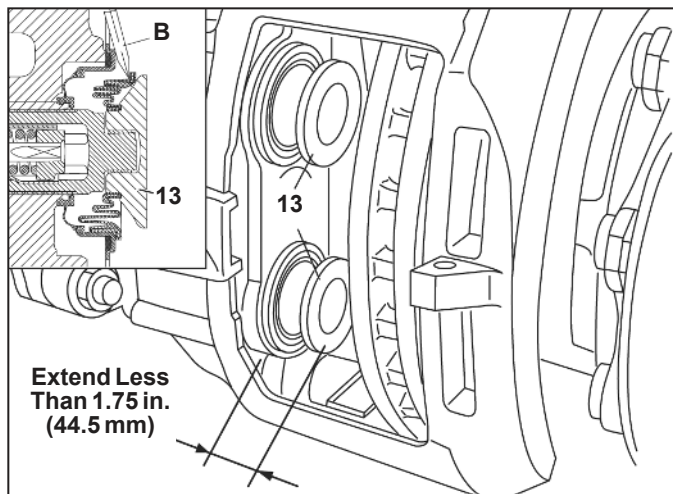
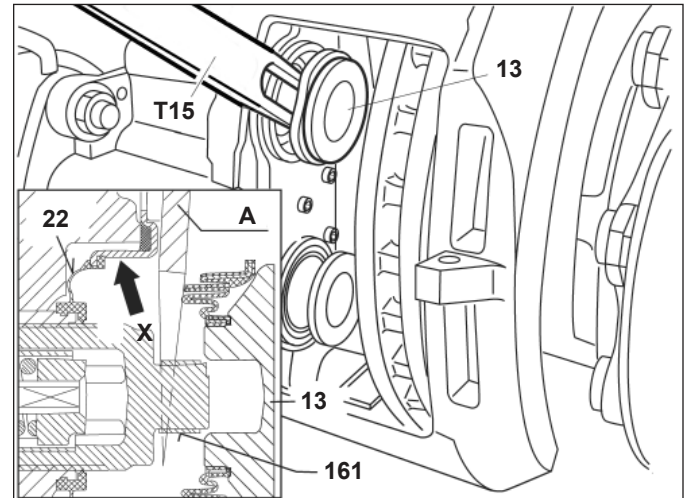

Figure 48 – Permitted Tappet Extension
Figure 49 – Wedge Tool Use
CAUTION: NEVER EXTEND THE TAPPET MORE THAN 1.75 in. (44.5 mm). See Figure 48. Over-extending the tappet will result in the tappet losing engagement with the threads of the synchronizing mechanism. Since the mechanism can only be set at the manufacturing plant, the caliper/carrier assembly must be replaced if this happens.
5.5.4 See Figure 48. Extend the tappets – less than 1.75 in. (44.5 mm) – by turning the shear adapter (61) clockwise. A screwdriver (callout “B” in Figure 48 inset) should be used to move the boot and allow the wedge fork (“A” in Figure 49) to be inserted.
CAUTION: DO NOT INSERT THE SCREWDRIVER MORE THAN ¼ INCH. Take care not to damage the inner sealing face (see arrow “X” in Figure 49). Gouges or grooves will prevent a good seal and will require that the caliper be replaced.